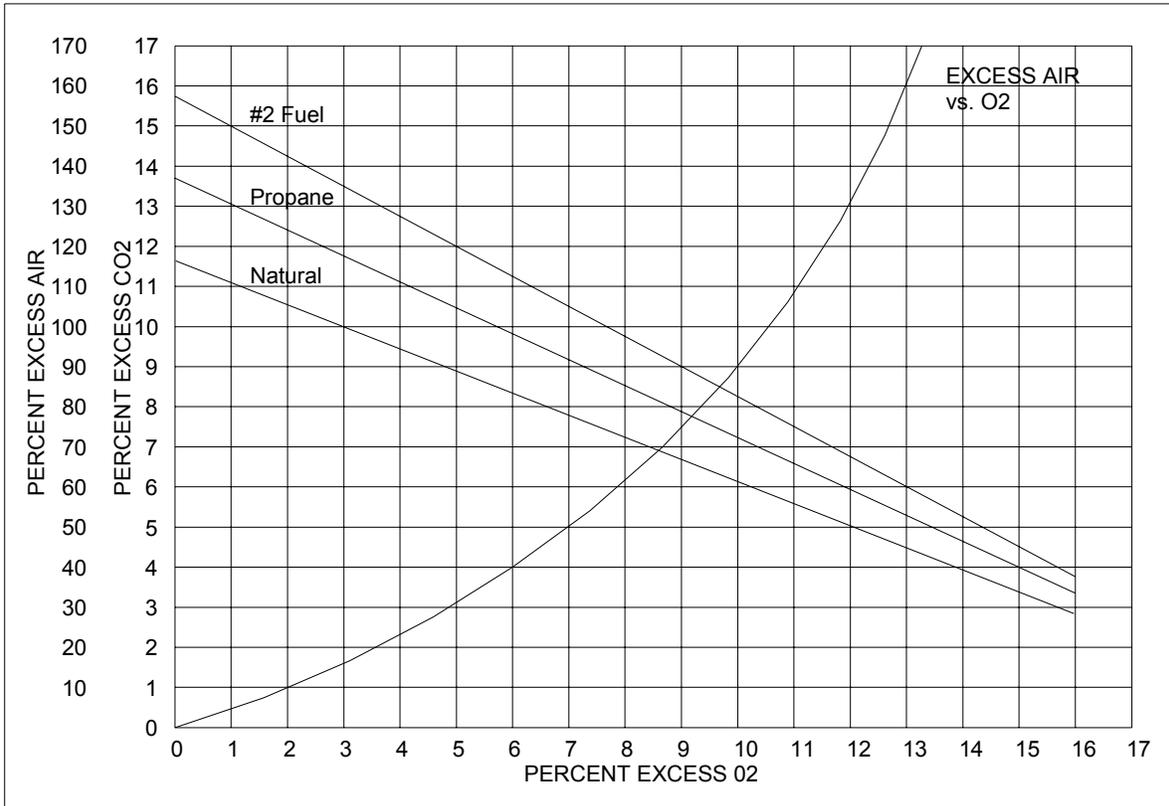

Figure 7: CO₂ versus O₂
3.1.2 See Figure 7 for CO₂ versus O₂ Curves. These curves correlate the relative values of O₂ and CO₂ for the fuels listed, as well as the percentage of excess air at given O₂ and CO₂ values.